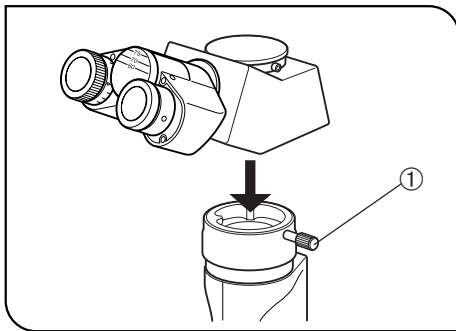

Fig. 32
## 7 Mounting the Observation Tube (CKX41 Only) (Fig. 32)
1. Loosen the observation tube clamping knob ① to a degree at which the knob does not come out. (Fig. 32)
2. Fit the circular dovetail at the bottom of the observation tube into the observation mount on the microscope frame. Adjust the observation tube until the binocular eyepieces face directly to the front, and then tighten the clamping knob. (Fig. 32)